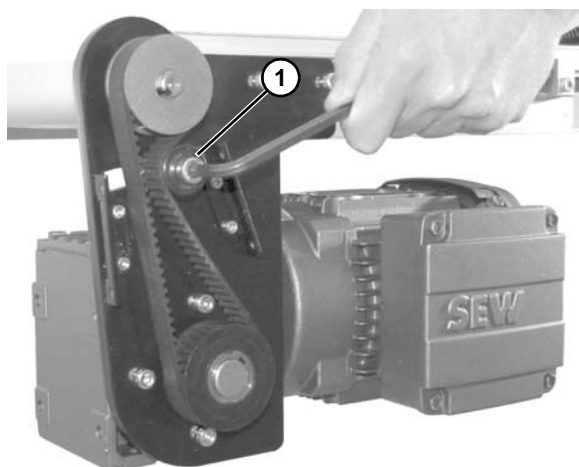

Figure 21
2. Loosen tensioner (Figure 21, item 1).